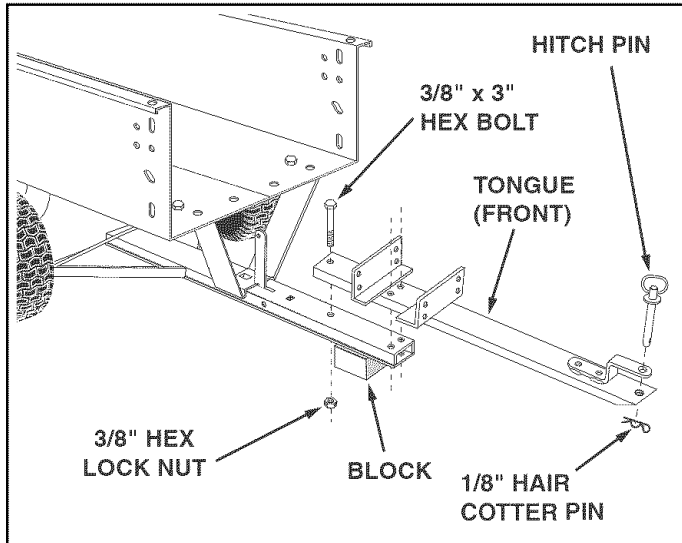

FIGURE 8
- Assemble the front tongue on top of the rear tongue using three 3/8" x 3" hex bolts and 3/8" hex lock nuts. See figure 8.
- Assemble the hitch pin to the hitch bracket and tongue, securing it with the 1/8" hair cotter pin. See figure 8.